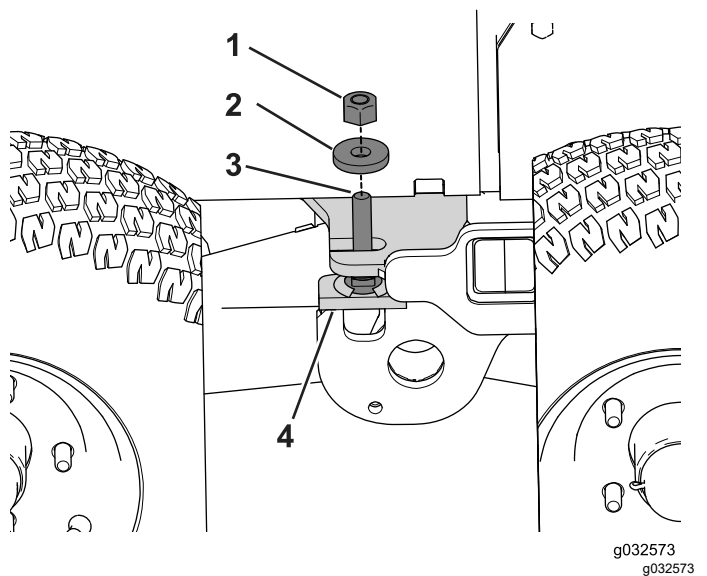

Figure 104
2. Remove the locknut and washer from the threaded stud on the bogie-stop assembly (Figure 104).
9. Install and tighten the flat washer (1/2 inch) and locknut to the bogie-pivot assembly (Figure 104).